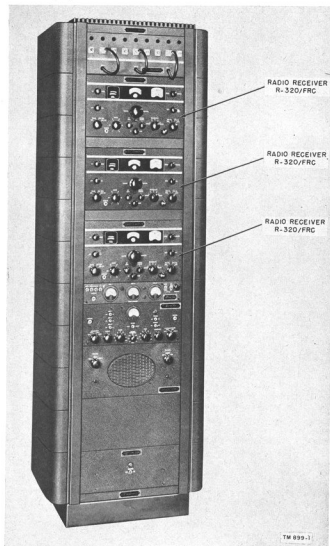

Figure 1. Radio Receivers R-320/FRC installed as components of Radio Receiver Assembly OA-58A/FRC.
This technical manual contains instructions for the installation, operation, maintenance, and repair of Radio Receiver R-320/FRC (fig. 1). In addition to these instructions there are two appendixes covering a list of references and an identification table of parts.
b. This receiver is designed for use in diversity receiving equipment (fig. 1) or as an individual receiver for rebroadcast pick-up, airbase-to-airbase service, island-to-island service, and ship-to-shore service. The installation and operation of Radio
b. The receiver is designed for rack-mounting or cabinet-mounting, as shown in figure 1. The chassis is not supplied with dust covers. All tubes (fig. 6) and components mounted on top of the chassis are exposed. All cabling terminals, a line voltage selector switch, antenna and ground connection posts, a monitor jack, and line cord and plug are attached at the rear of the receiver.